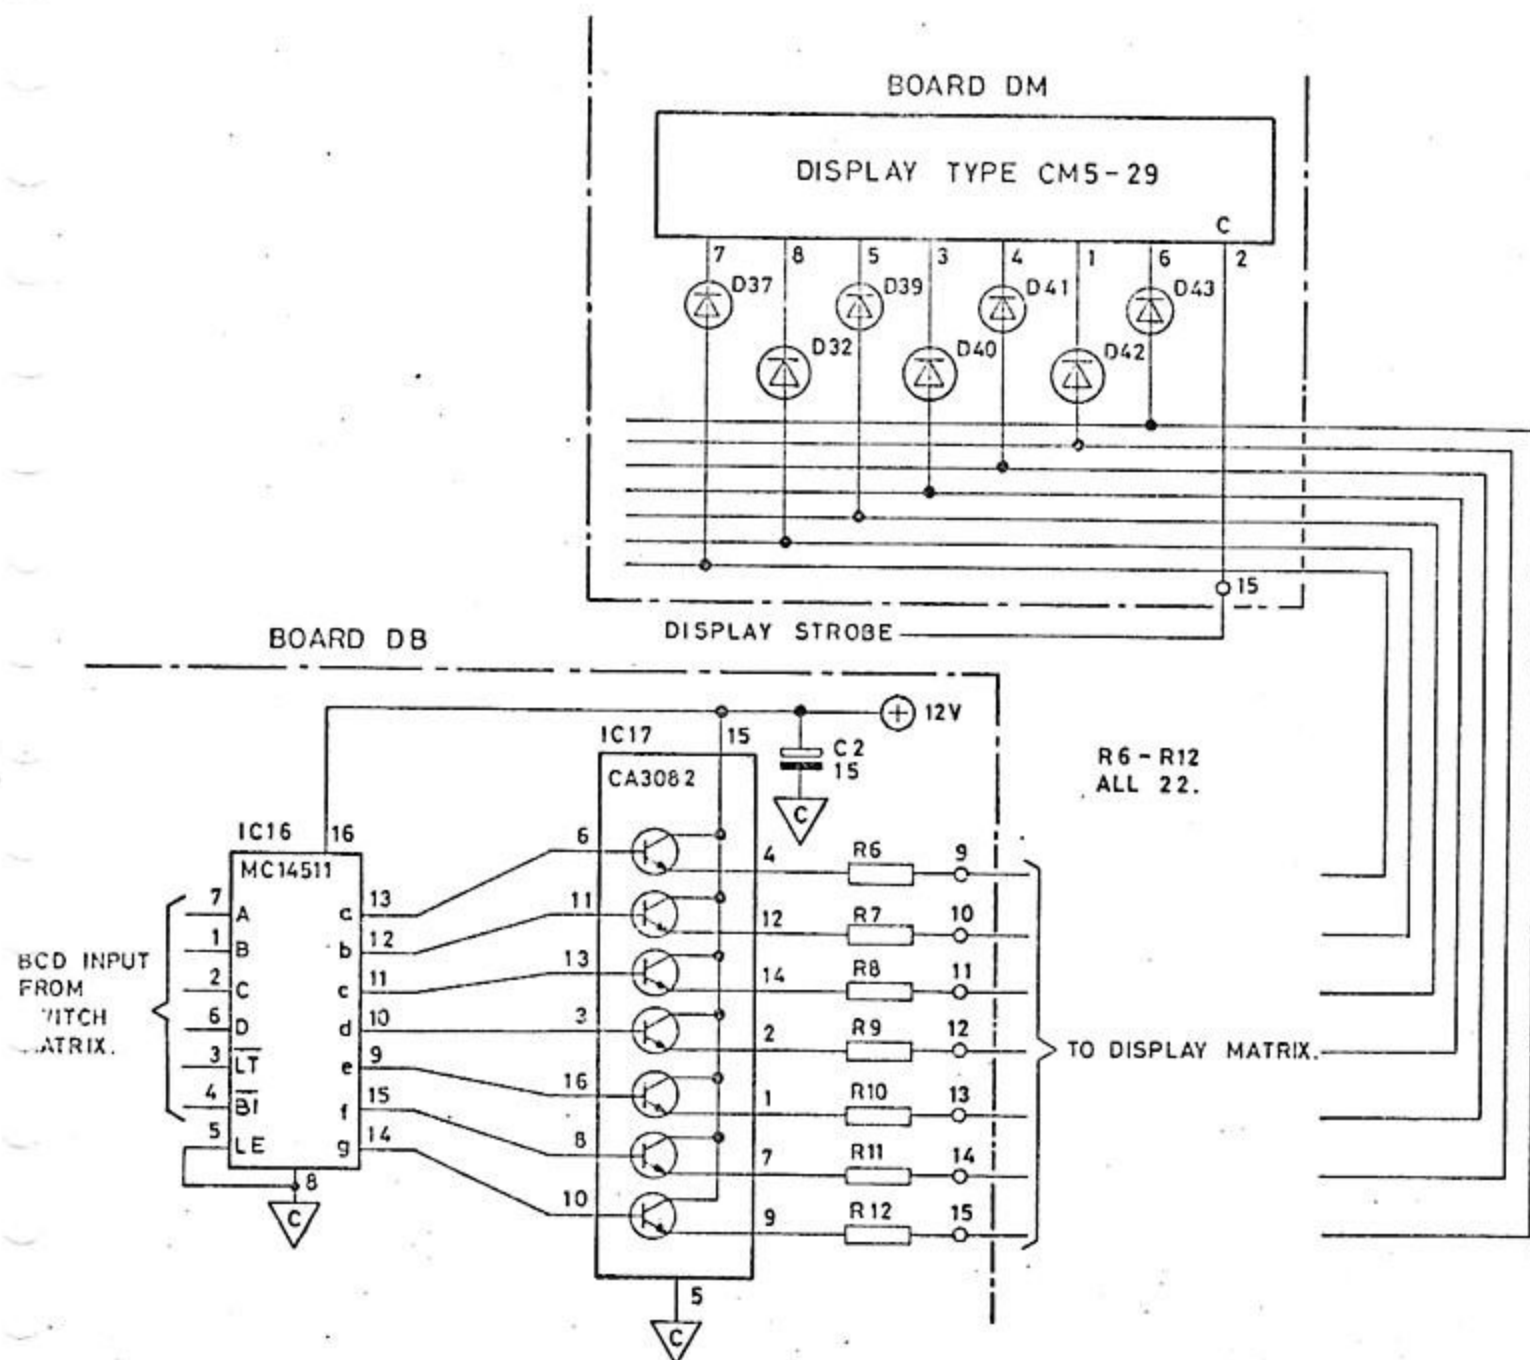

Fig.6 Display driver
9. The BCD-to-7 segment latch/decoder/driver energises the required bases of IC17 and causes 1 outputs via resistors R6 to R12 to energise the correct segments of the digital displays (Fig.6). Diodes D16 to D50 prevent ghosting (unwanted lighting of lamps).